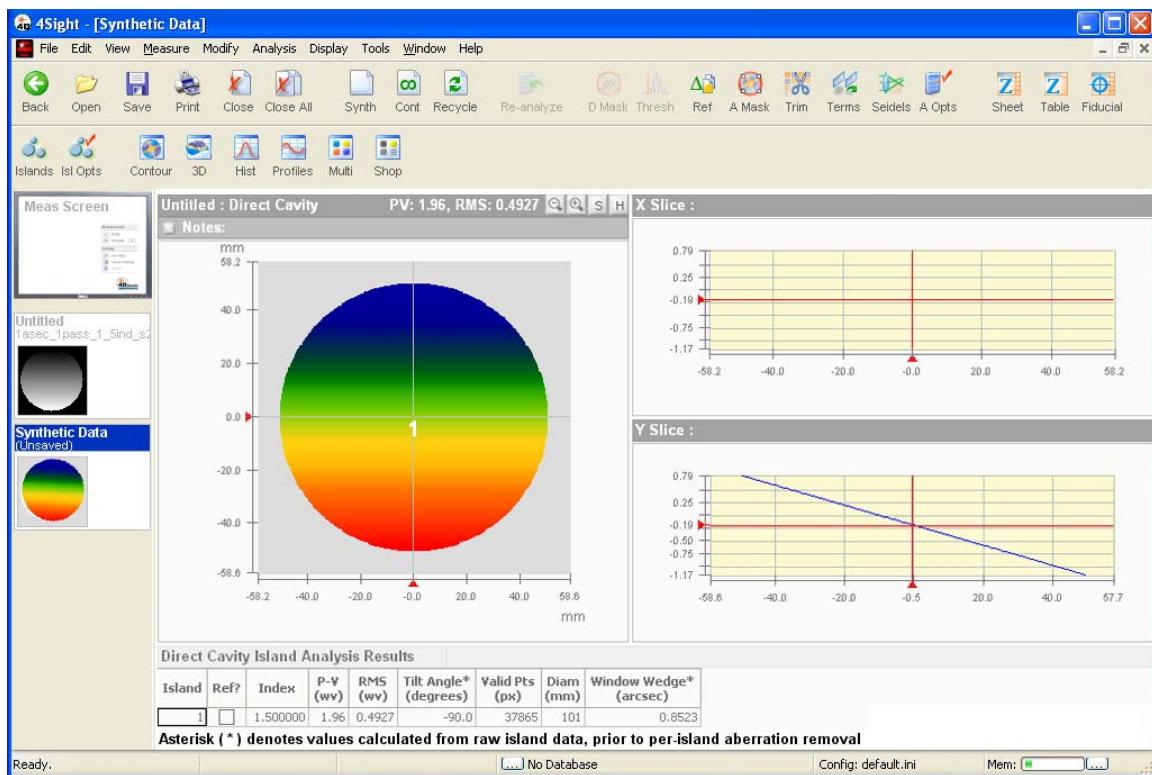

Figure 100: Direct Cavity Island Analysis.
5. Choose **Analysis > Direct Cavity > Direct Cavity Island Analysis**. The resulting analysis screen will show the wedge magnitude and the Tilt Angle, which is the direction of the wedge (*Figure 100*). “0 degrees” tilt angle indicates that the sample is thickest at the right side of the display; “90 degrees” indicates that it is thickest at the top of the display (*Figure 101*).